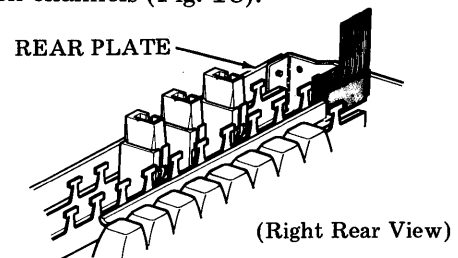

Fig. 18—Cable Removal
- (h) Remove rear plate (Fig. 18).
- (i) Slide cable to the right until it clears the circuit card. Remove through opening between channels (Fig. 18).